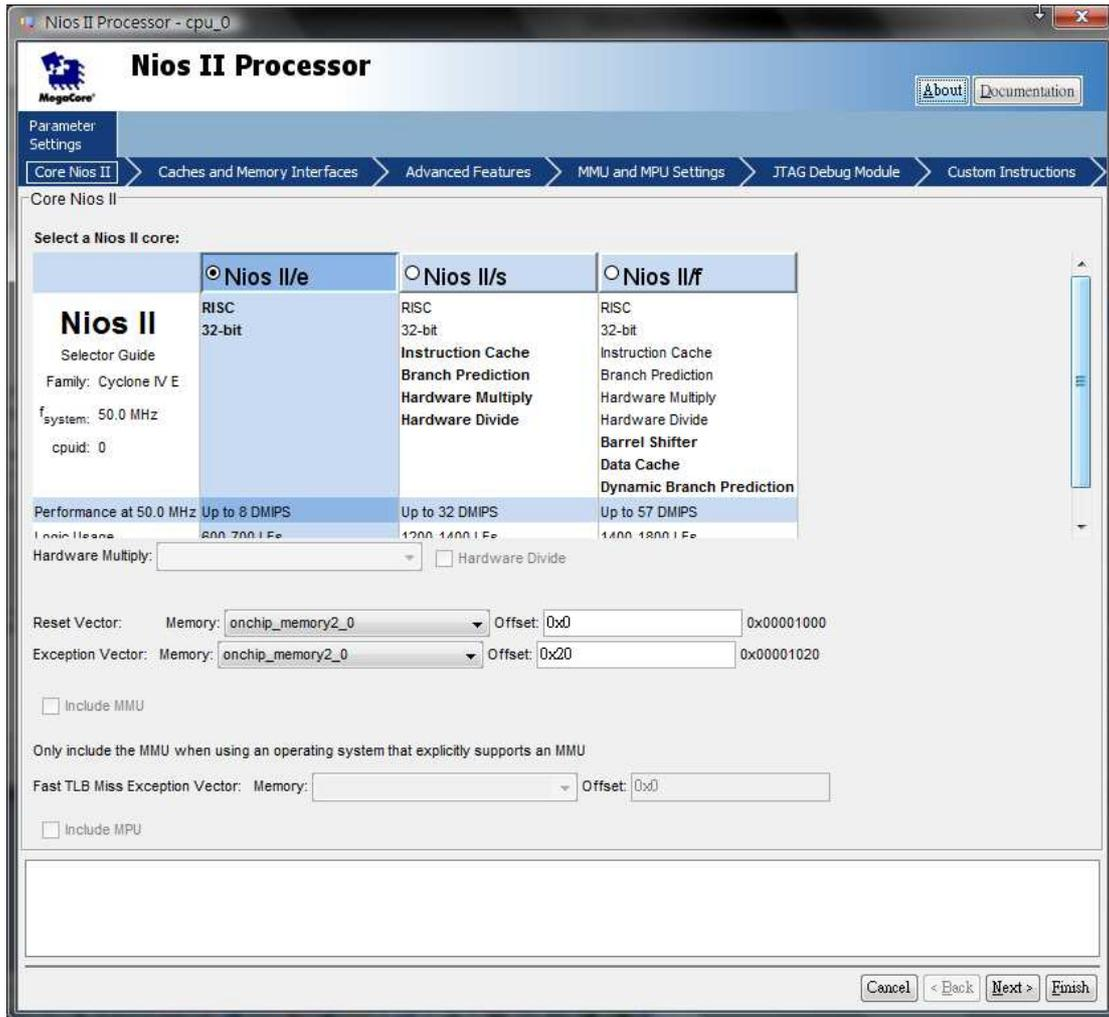

Figure 15. Define the reset vector and exception vector.
- Right-click on the **cpu_0** and then select **Edit** to reach the window in Figure 15